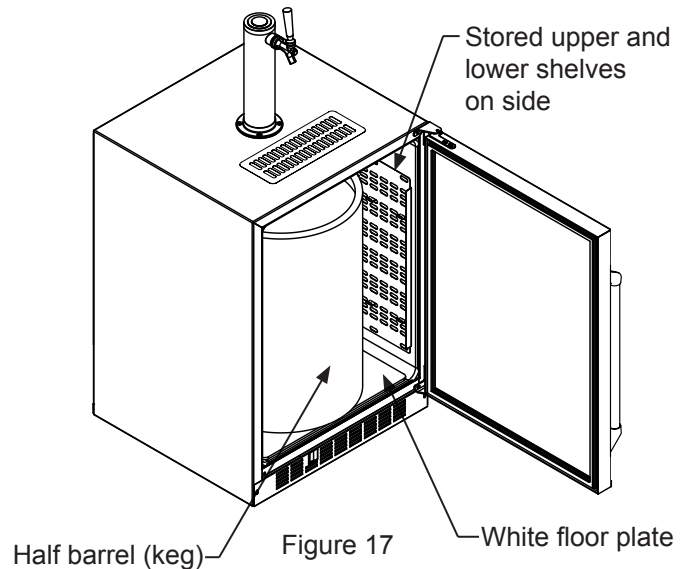

Figure 17
If you are using a half barrel (keg) or (2) 1/6 barrels, place the two shelves on the right side of the keg dispenser on the two mounting hooks for storage. (See Figure 17). Be sure the white floor plate is in the bottom of the interior compartment before positioning the barrel(s).